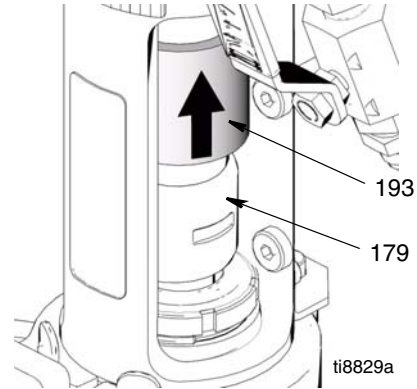

FIG. 15
5. (Fig. 15) Slide coupler cover (193) up to fully expose rod couplers (179).